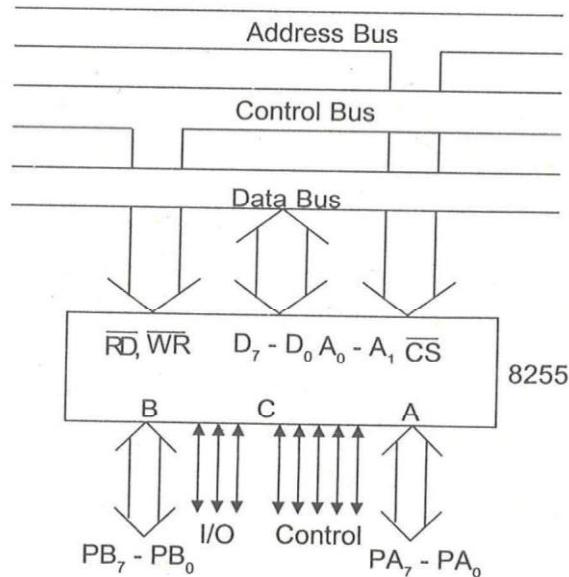

Fig 5.7 Mode 2-Bidirectional Mode
- In this mode data transfer is done in both directions between microcontroller and peripheral devices. Shown in the fig 5.7 mode 2 bidirectional mode